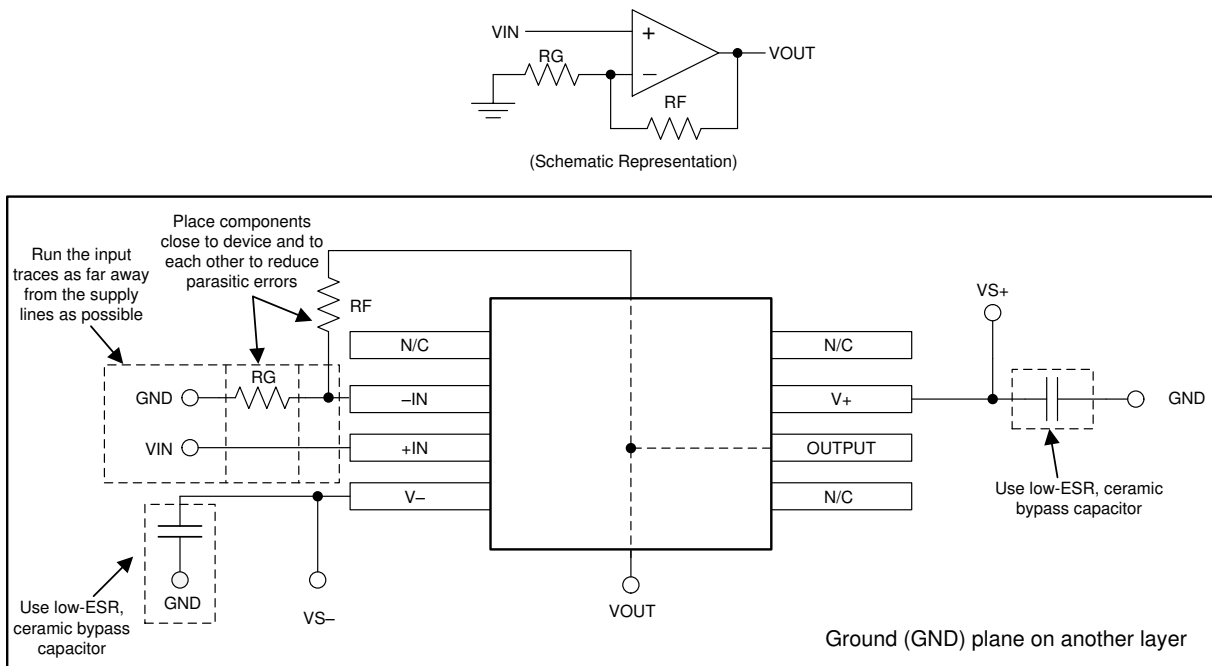

图 10-1. Layout Example
- Place the external components as close to the device as possible. As shown in Figure 10-1, keeping R_F and R_G close to the inverting input minimizes parasitic capacitance.